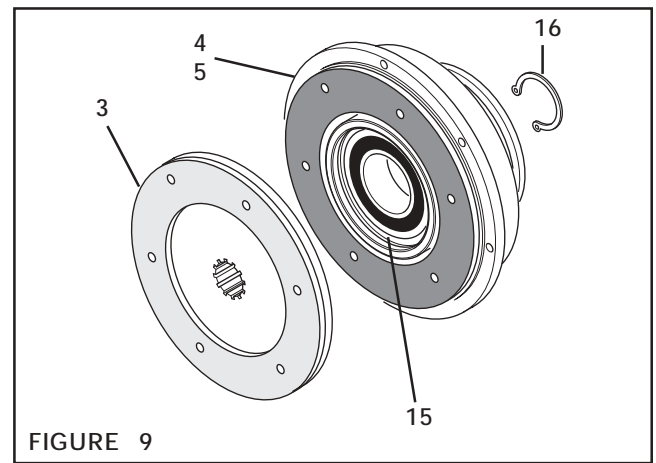

FIGURE 9
24. Fully support the inner race of Bearing (Item 15) and press the Clutch Disc (Item 3) into the Brake Housing (Item 4) and Piston (Item 5) (See Figure 9).
25. Reinstall the Retaining Ring (Item 16) onto the Clutch Disc (Item 3) (See Figure 9).